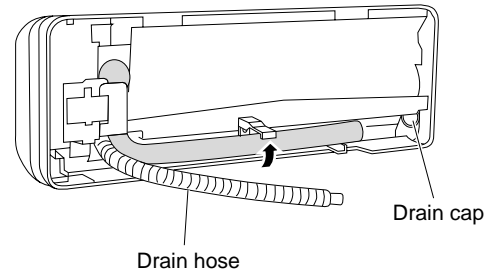

Fig. 27b
- Locate the drain hose and drain cap. (Fig. 27b)
- Remove the drain hose on the right side by pushing and turning the hose connector counter-clockwise to release it. (Fig. 27b)